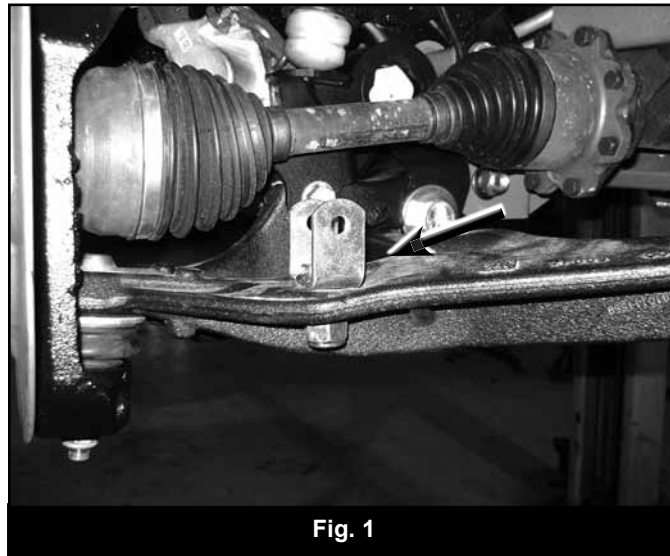

Fig. 1
4. Locate the 2 new sway bar link brackets (02129). Install the bracket into the factory sway bar link holes in the lower control arms and fasten with the provided 5/8" nylock nuts and washers (BP582). Torque the nuts to 90 ft-lbs making sure that the link mounting holes are running parallel with the lower control arm mounting bolts. (Fig 1)